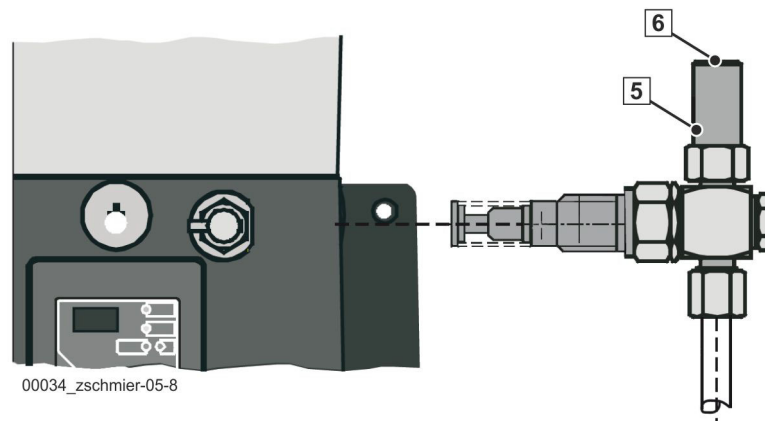

Fig. 478
A pressure relief valve (5) (**Fig. 478**) protects the entire lubrication system against excessive system pressures. It is mounted directly on the pump element.
If a clogged distributor or lubrication point causes an operating pressure of over 300 or 200 bar, the valve opens and grease will visibly emerge from the escape point (6) (**Fig. 478**).